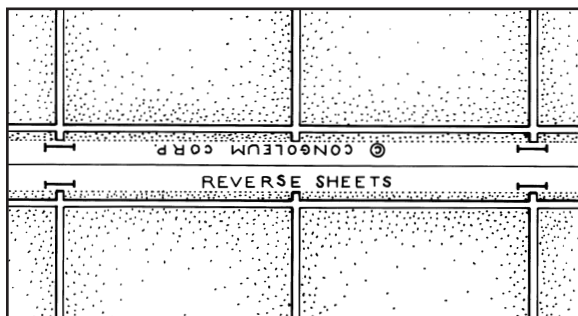

Fig. 8. Align C to C or I to I for design match points on Reverse Sheets designs.
- Reverse the sheets of flooring material to be seamed and align I to I, or C to C (Figure 8). When the I's or C's are placed together and the selvages overlapped, the design will be accurately aligned at its match points.